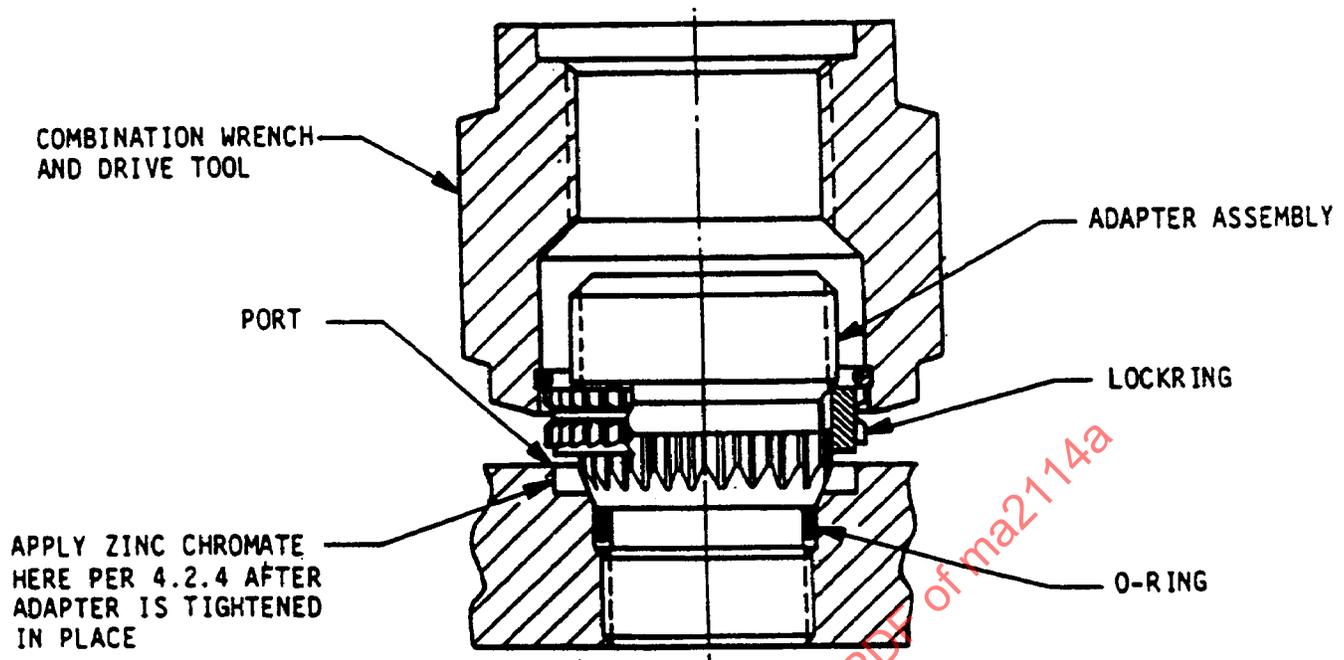

FIGURE 3 - Torquing Adapter Assembly
- 4.2.3 Using the applicable combination wrench and drive tool in Table II, engage the serrations of the tool with those on the external serrations of the adapter locking per Fig. 3. Place a torque wrench of the proper size over the hex of the wrench and apply a torque equal to the minimum value specified in Table II. Note the relationship of the serrations of the locking with respect to the prebroached serrations in the port. If they match, proceed to 4.2.4. If the serrations do not match the prebroached serrations in the port, continue to slowly torque the adapter toward the maximum value allowed in Table II until the serrations of the locking match the boss serrations. This shall normally take between 3 and 8 degrees of turning and the maximum value need not be reached if the serrations align themselves prior to that value. Do not exceed maximum torque values.